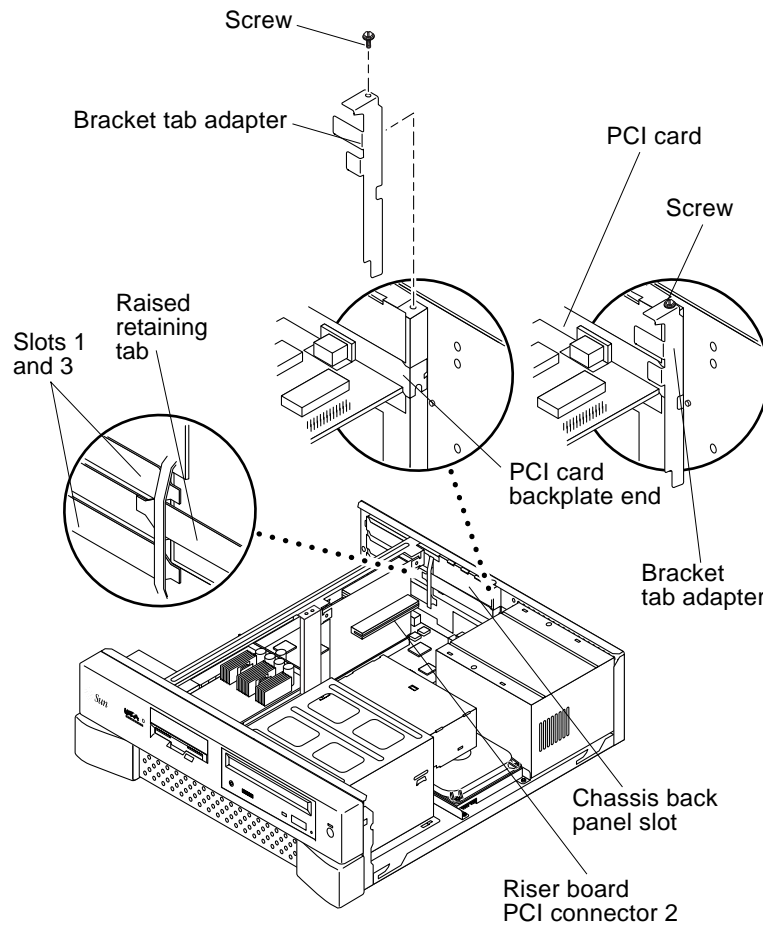

FIGURE 6 Removing and Replacing the PCI Card from PCI Slot 2 (Ultra 5)
4. Remove the PCI card from slot 2 (FIGURE 6):
1. Replace the PCI card into PCI slot 2 (FIGURE 6):